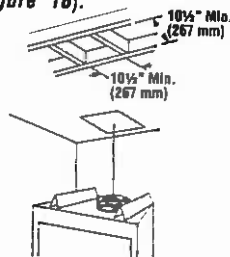

FIGURE 18
A. Frame ceiling opening - Use a plumb line from the ceiling above the appliance to locate center of the vertical run. Cut and/or frame an opening, 10 1/2" x 10 1/2" (267 mm x 267 mm) inside dimensions, about this center mark (**Figure 18**).
C. Frame ceiling opening - If the vertical route is to penetrate a ceiling, use plumb line to locate the center above the appliance. Cut and/or frame an opening, 10 1/2" x 10 1/2" (267 mm x 267 mm) inside dimensions, about this center (refer to Figure 18 on page 11).